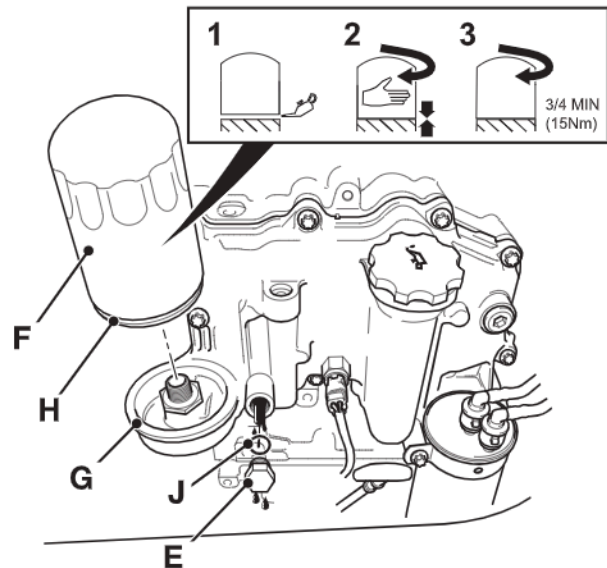

Fig 100.
- 4 Place a container of suitable size under drain plug **E** to catch the oil. → Fig 100. (□ 135).